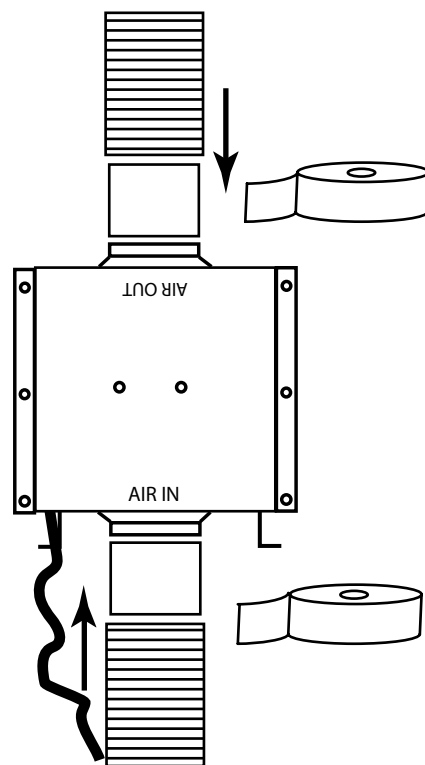

FIGURE 2
3. Secure the chimney mounting bracket to the wall using (2) 4.2 x 30mm mounting screws and anchors. FIGURE 2.
9. Secure the unit by using 6 long mounting screws, 3 into each side - FIG 2.
Attach the two rigid metal connector sleeves. FIGURE 2.
4. Attach another length of duct to the outlet side with the ducting then directed to an external vent in the roof or wall. FIGURE 2.